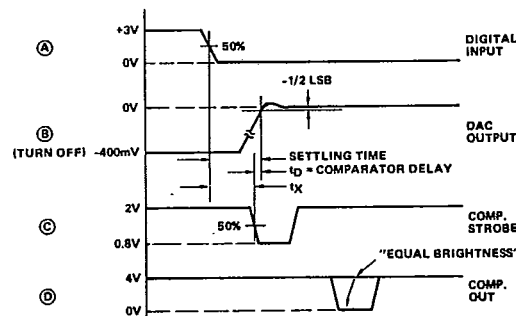

FIGURE 3B.
As shown in Figure 3B, settling time equals t_X plus the comparator delay ($t_D = 15ns$). To measure t_X ,
- Adjust the V_{LSB} supply for 50 percent triggering at COMPARETOR OUT. This is indicated by traces of equal brightness on the oscilloscope display as shown in Figure 3B. Note DVM reading.
- Switch the LSB to Pulse (P).
- Measure t_X from scope as shown in Figure 3B. Settling time equals $t_X + t_D$, i.e. $t_X + 15ns$.